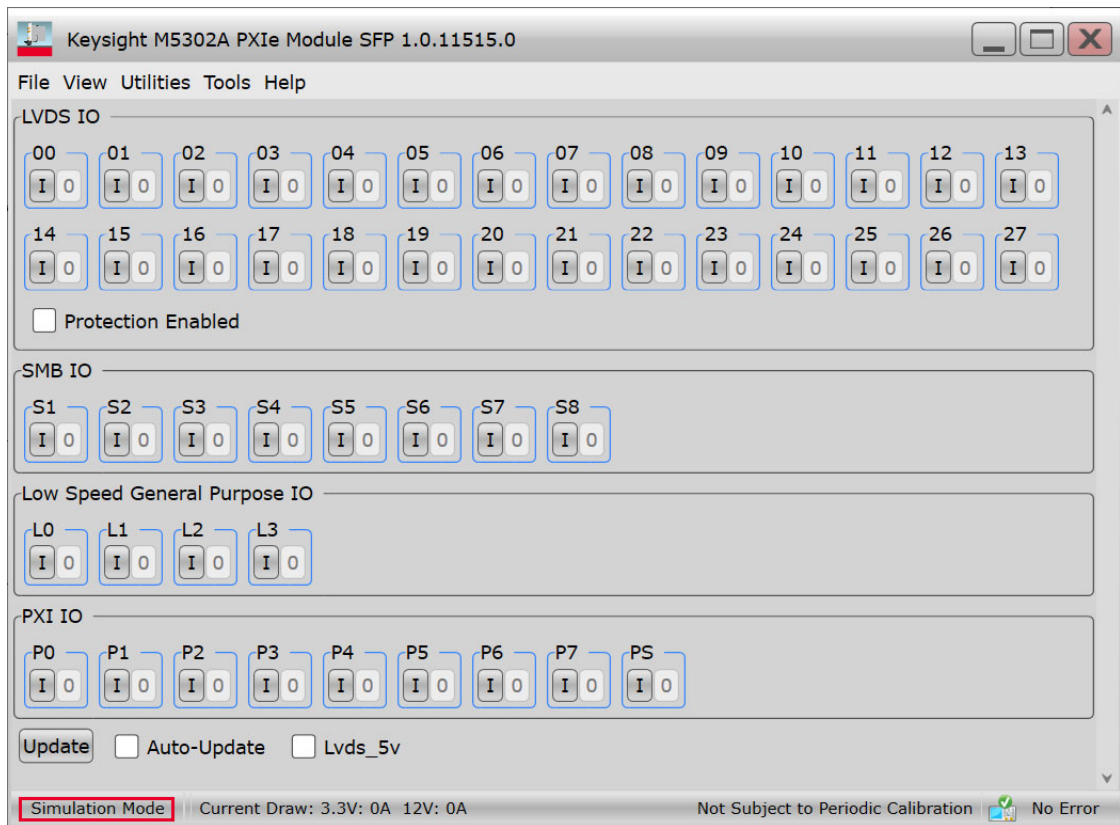

Figure 35 “Simulation Mode” in the status bar on the main window
- ‘Simulation mode’ enabled—This is the default mode of SFP operation. The **Simulation Mode** check box is selected by default and the **Simulate** button is displayed on the window. As the name indicates, this mode is used for offline SFP operations. In this mode, even if you select an active module (which is connected to a chassis in powered on state), toggling the SFP controls does not affect the signal state on the module. The status bar on the main window shows ‘Simulation Mode’, as shown in Figure 35.